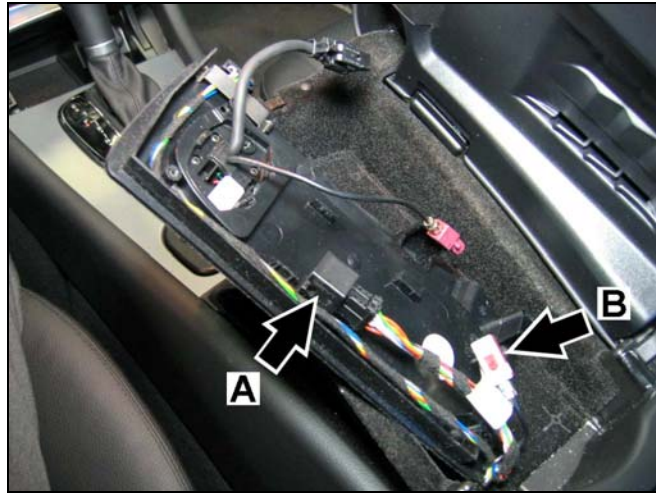

Figure 40
- Find the female power supply connector (A, Figure 40) and female FAKRA connector (B, Figure 40) within the console harness.